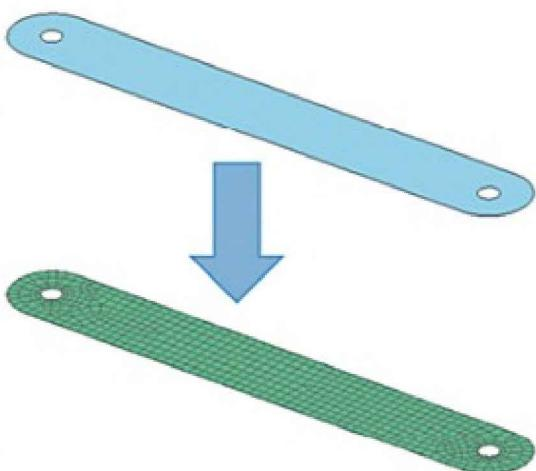

Figure 2.9. Creating an FE mesh
3.5. To generate an FE mesh, use the **2D Mesh** command on the Finite Element Model toolbar and specify the following (Figure 2.9):